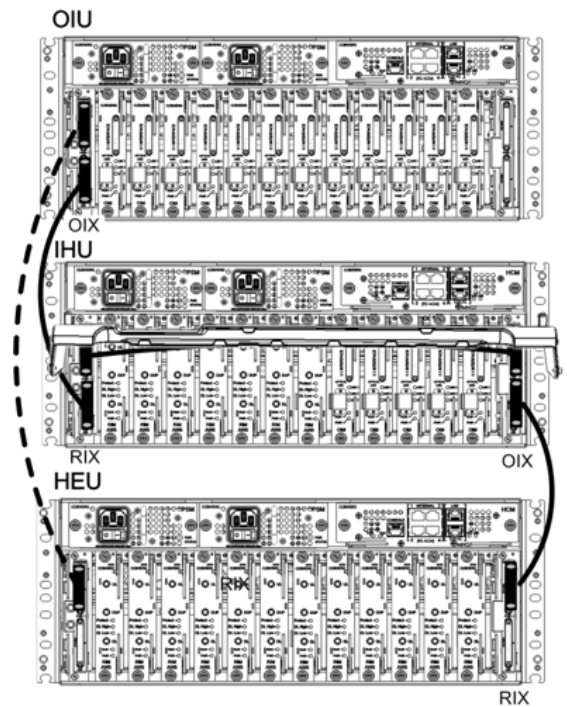

Figure 6: RIX to OIX Connections between IHU, HEU, and OIU
- Connections to additional HEUs and OIUs (see Figure 6):